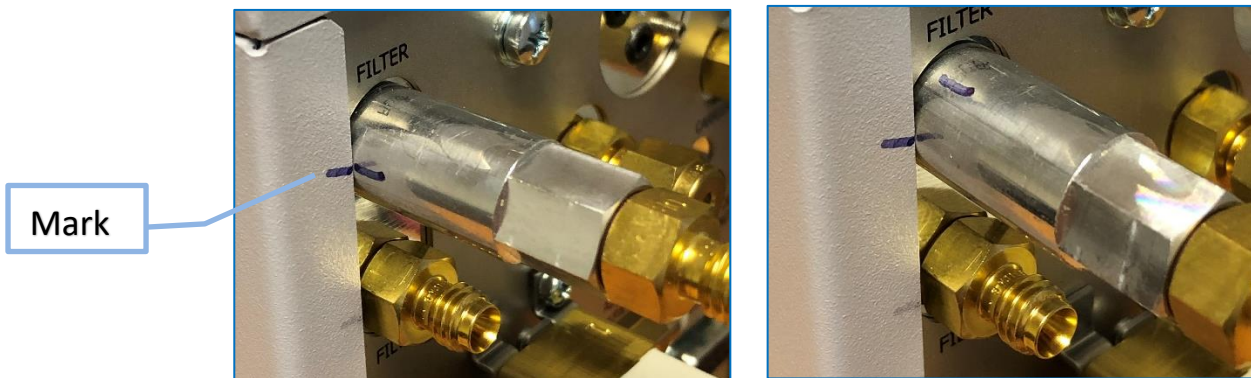

Figure 5.
5. Make a mark on the filter body and the side panel as it is shown in Fig. 5 (left).
6. Take the 12-mm spanner and turn the filter approx. 1/6 turns clockwise (see Fig. 5, right).